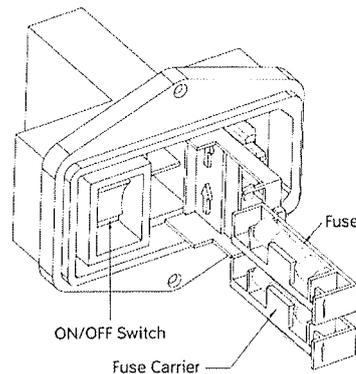

Figure 44. AC receptacle with fuses
2. Use a screwdriver to open the fuse compartment door on the AC receptacle (Figure 44) and slide out the two fuse carriers. Refer to the Rear Panel Layout section to locate the AC receptacle on the rear panel.